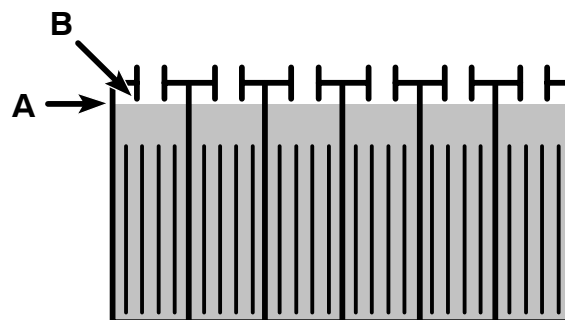

FIG. 21
- Lead Acid Batteries: After charging, check the electrolyte level (A) again. The level should be approximately 1 cm from the bottom of the fill-port (B) (Figure 21). Add distilled water if needed. DO NOT OVERFILL.